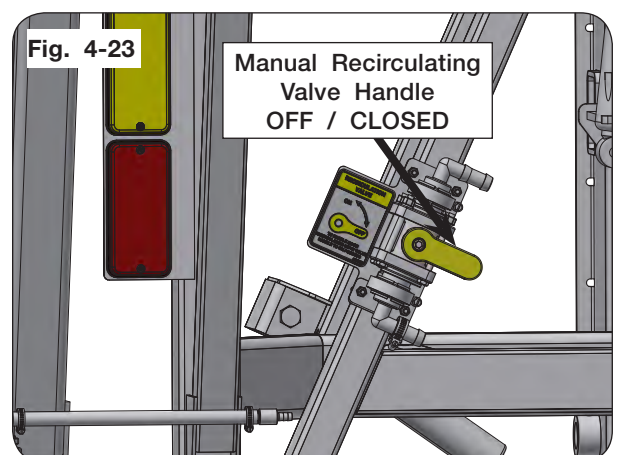

Fig. 4-23
8. Ensure manual recirculating valve handle is in OFF / CLOSED position. (FIG. 4-23)